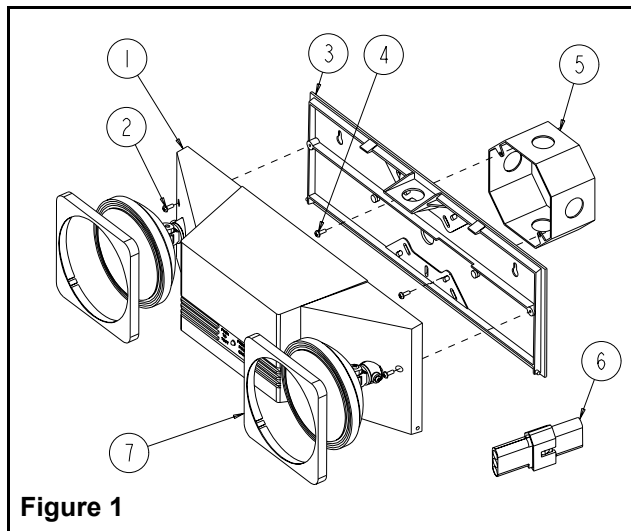
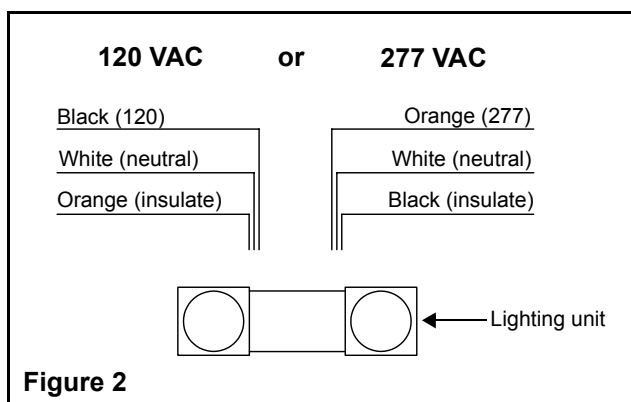

Figure 1
Figure 2
- b. Locate the AC connector (see fig. 1). Route the AC wires, on the male side, through the large hole in the backplate and attach to the unswitched AC circuit. Make the connections in the electrical box. Our unit accepts an input voltage of 120 VAC or 277 VAC (see fig. 2).
- b. Attach AC connector to service wires as described above and on figure 2. Break out knockout in top face of front cover to clear conduit.